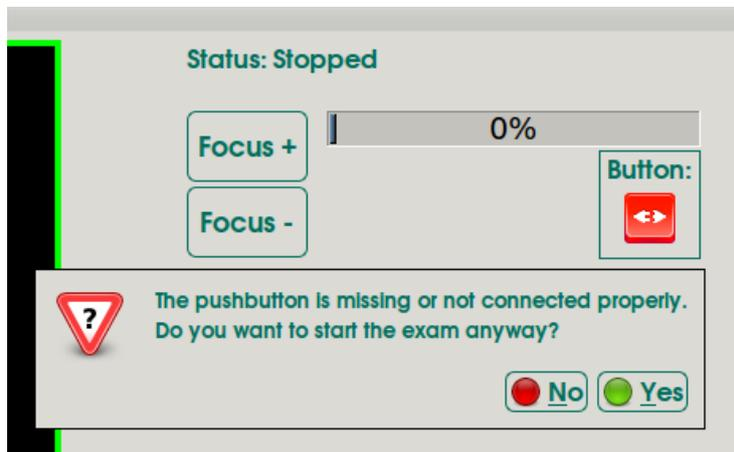

Fig. 27 – Message for unplugged push-button
**In MAIA 2013 Edition only**, the software automatically detects whether the push-button is missing or improperly plugged, and it warns about this situation with a message (see Fig. 27): in such a case re-check proper connection by unplugging and fully plugging again the jack of the push button (see Fig. 4).